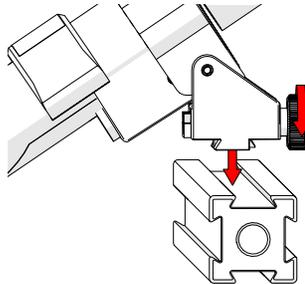

Fig. 195 - Mount on frame bar
2. Mount the optical guide to the frame bar, tighten the optical guide knob (Fig. 195).